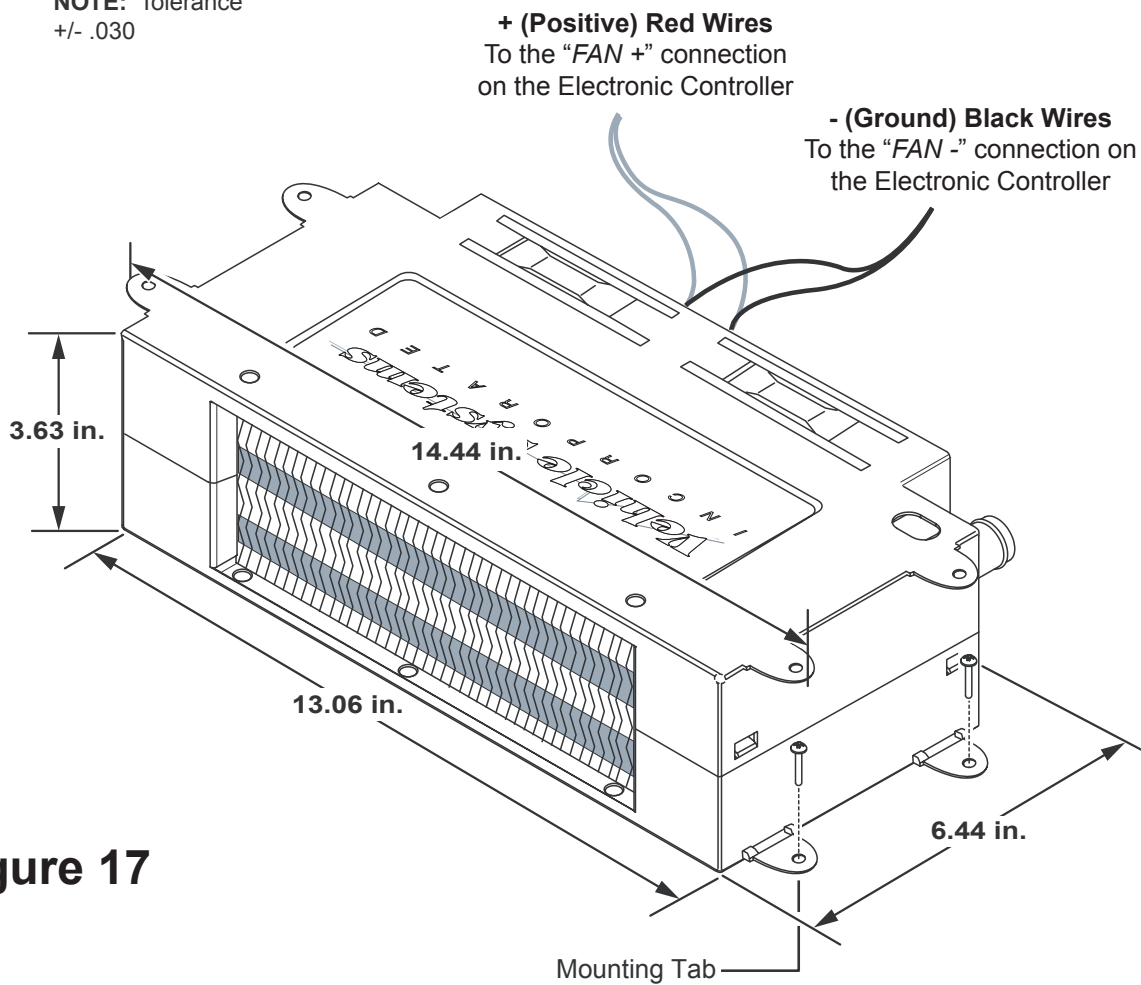

Figure 17
NOTE: Run two wires from the closest Heat Exchanger to the Electronic Controller, then wire the other Heat Exchangers in-parallel for those heating zones with multiple Heat Exchangers; reference Figure 17 and Appendix A.
- Connect all Electronic Controller “FAN” wires to the positive and negative leads of each Heat Exchanger; reference Figure 17 and Appendix A.